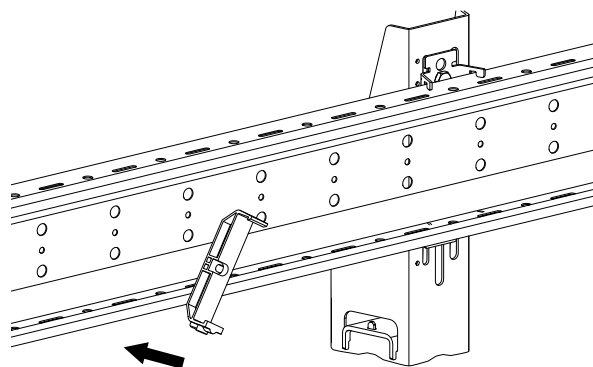
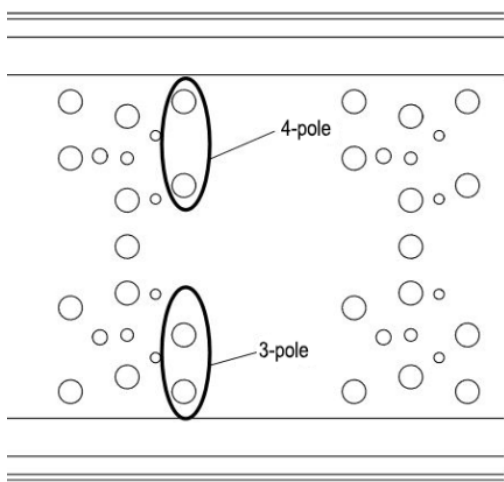

Fig. 54: Install hanger clamp 0831 onto ProShell support profile rail
Fig. 57: Series of holes for 7-pole hanger clamp 0831 in ProShell 206 Support Profile System
1. Hook the locking pin (4) of the hanger clamp onto the lower frame of the ProShell support profile so that by screwing in the hanger clamp, the two pins (3) are sunk into the holes of the ProShell support profile (see Fig. 54 to Fig. 57).